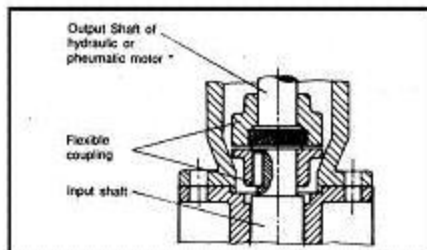

Fig. 2
2.1 If driven by hydraulic or pneumatic motor (max. 500 rpm) a flexible shaft coupling must be used to connect the motor shaft to the input shaft of the Gear Box (fig.2).